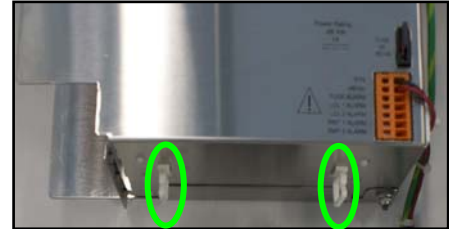

Fig 5: Routing the trimmed 48" connection cables via the cable guides installed
1.6.3 Sets of 48" connection cables, terminated in the appropriate RJ connectors, have been provided with the assembly. Trim the un-terminated end of the connections cable to the desired length, routing the connection cables through the cable guides installed on the base of the TeleLite 3-slot "swing-Out" shelf. See Figure 5.